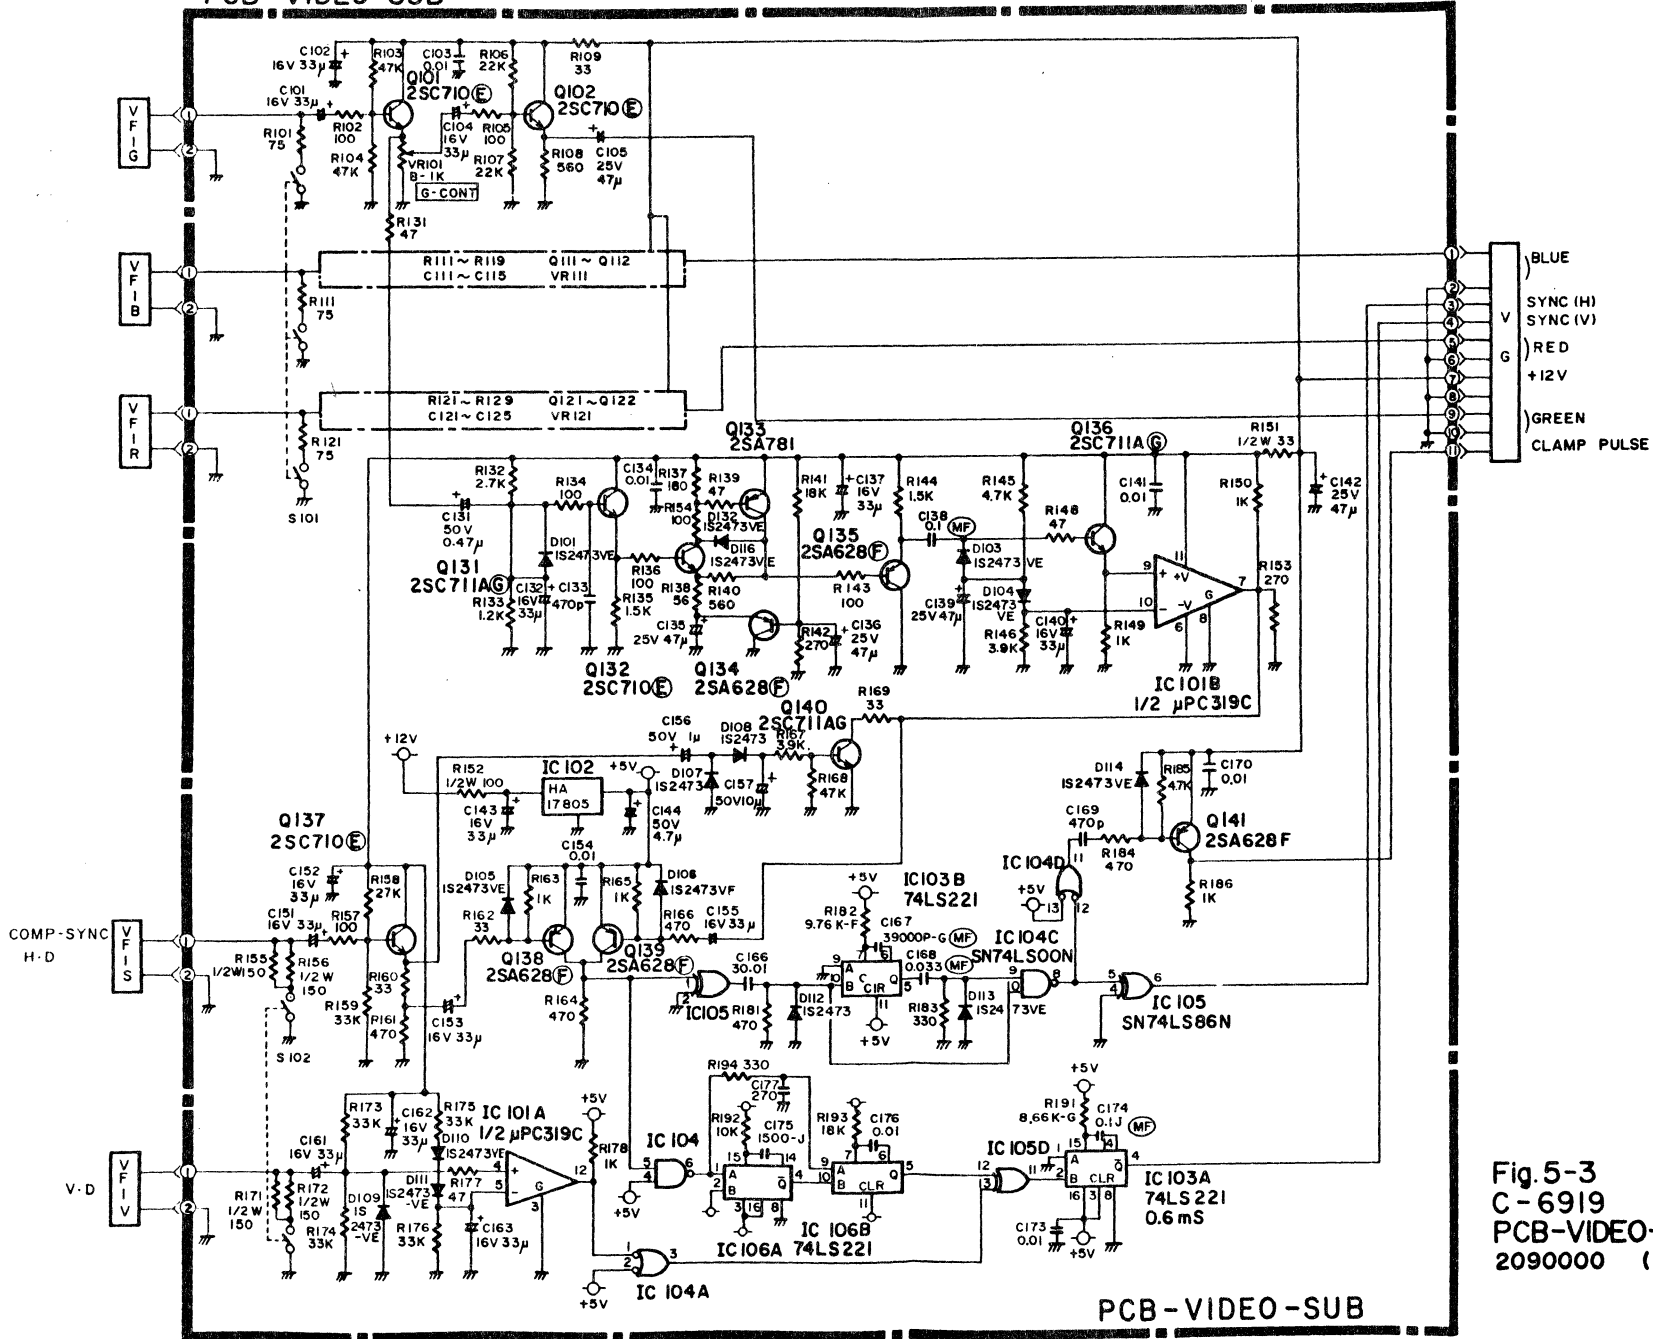

Fig.5-3
- Fig.5-3 PCB-VIDEO-SUB Circuit